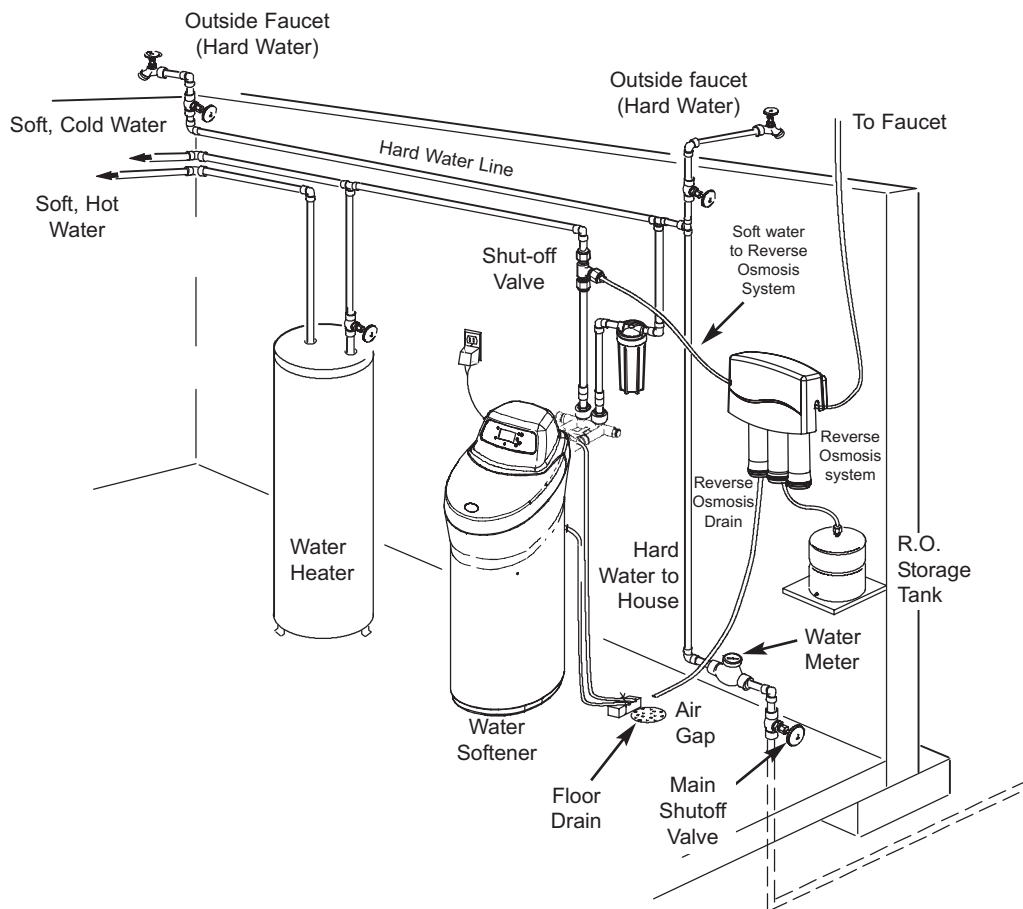

FIG. 3
1. Place as close as possible but always after, the pressure tank (well water) or water meter (city water). See Fig. 3.
2. Place as close as possible to a water drain such as a floor drain, laundry tub, sump or standpipe. See Fig. 3.
3. Connect to the house main water pipe BEFORE THE WATER HEATER. See Fig. 3. **Temperature of water going through the softener must not be more than 120°F (49°C).** Hot water will damage inner softener parts. To reduce the risk of hot water backup, piping between the softener and water heater should be as long of a run as possible.
4. Keep outside faucets on hard water to save soft water and salt. See Fig. 3.
7. A grounded, 120V electrical outlet is needed within 10 feet of the softener. See Fig. 3. This is to plug in the transformer. The softener has a 10 foot power cable. **Be sure the outlet and transformer are in an inside place, to protect from wet weather.** Use a continuously "live" outlet, which cannot be accidentally switched off.